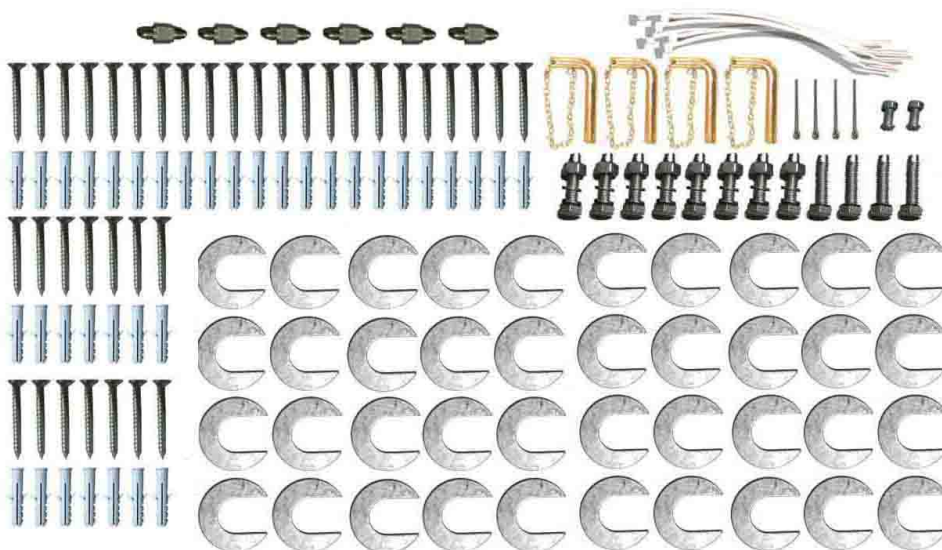

Fig. 17
4.1 Parts bag for on surface installation (**See Fig.17, Fig.18**)